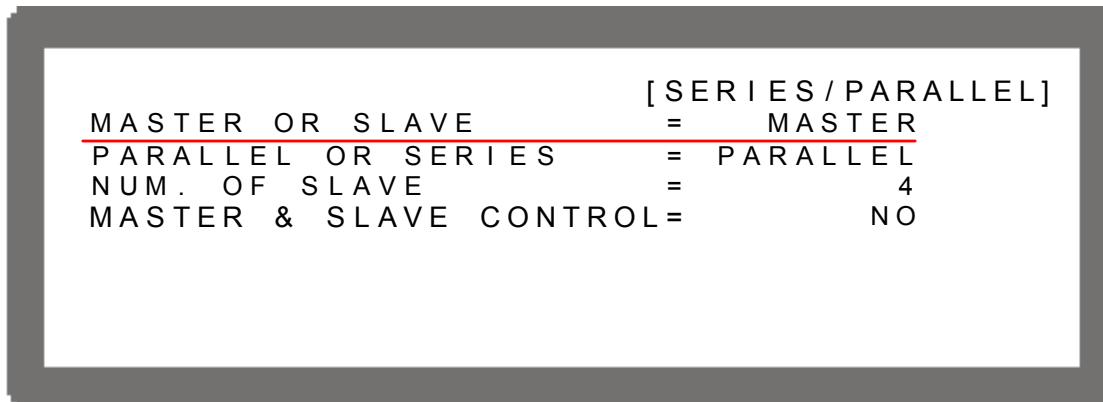

Figure 3-36
1. In Config Setup page, press “3” and “ENTER” to select PARALLEL /SERIES and display Figure 3-36.